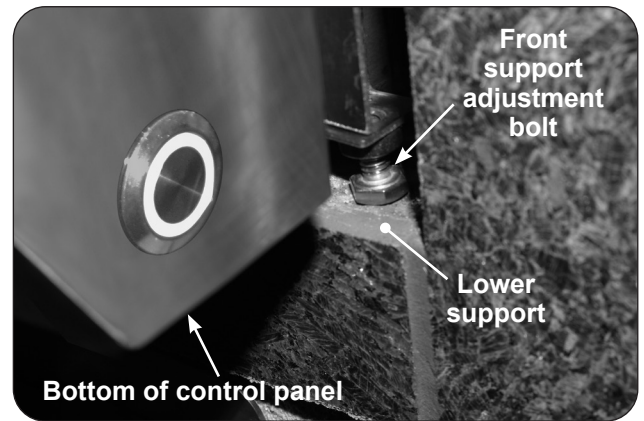

Fig. 27-1 Front support adjustment bolts
3. Rotate the front support adjustment bolts (up or down) until the grill hanger rests flush on the countertop, AND, the adjustment bolts are touching the supporting structure found at the bottom of the cutout (lower support). Use a 7/16" open-end wrench as needed. See Fig. 27-1.